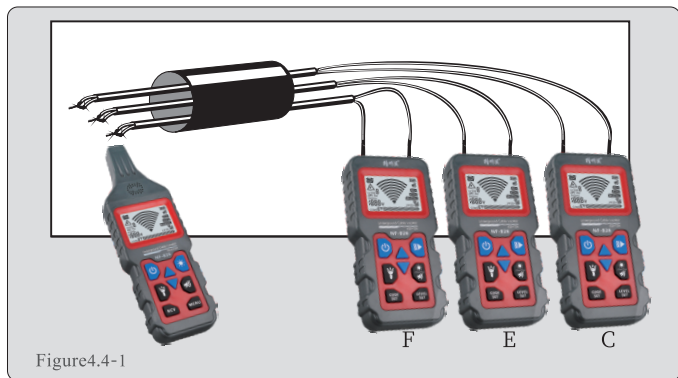

Figure4.4-1
- Connect the transmitter as shown in Figure 4.4-1;